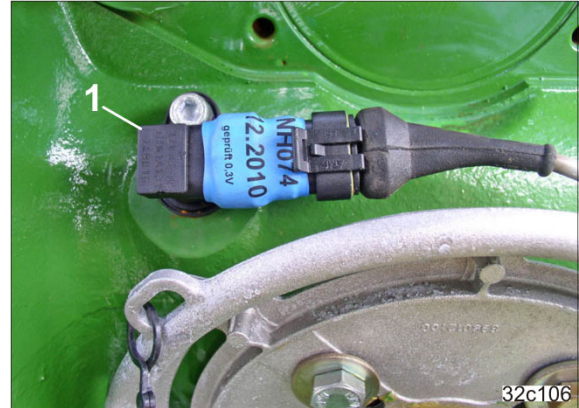

Fig. 36
- on the two-gear gearbox (Fig. 36)